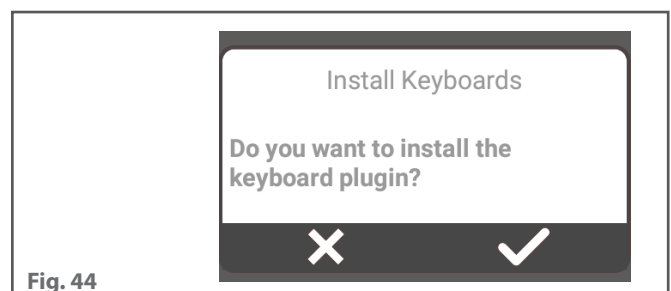

Fig. 44
- 3 ▶ **Fig. 44** then another message is displayed requesting confirmation of keyboard installation.